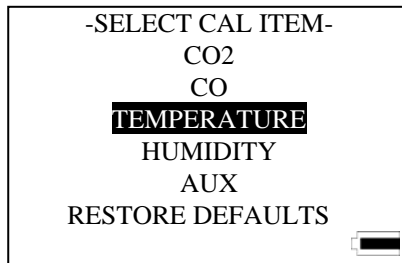

Figure 4-15: Calibration Submenu Screen
2. Put the Q-TRAK Plus monitor into calibration mode by selecting either temperature or humidity in the Calibration Menu by using the ▲ or ▼ keys and press the ↵ key (refer to Figure 4-15).